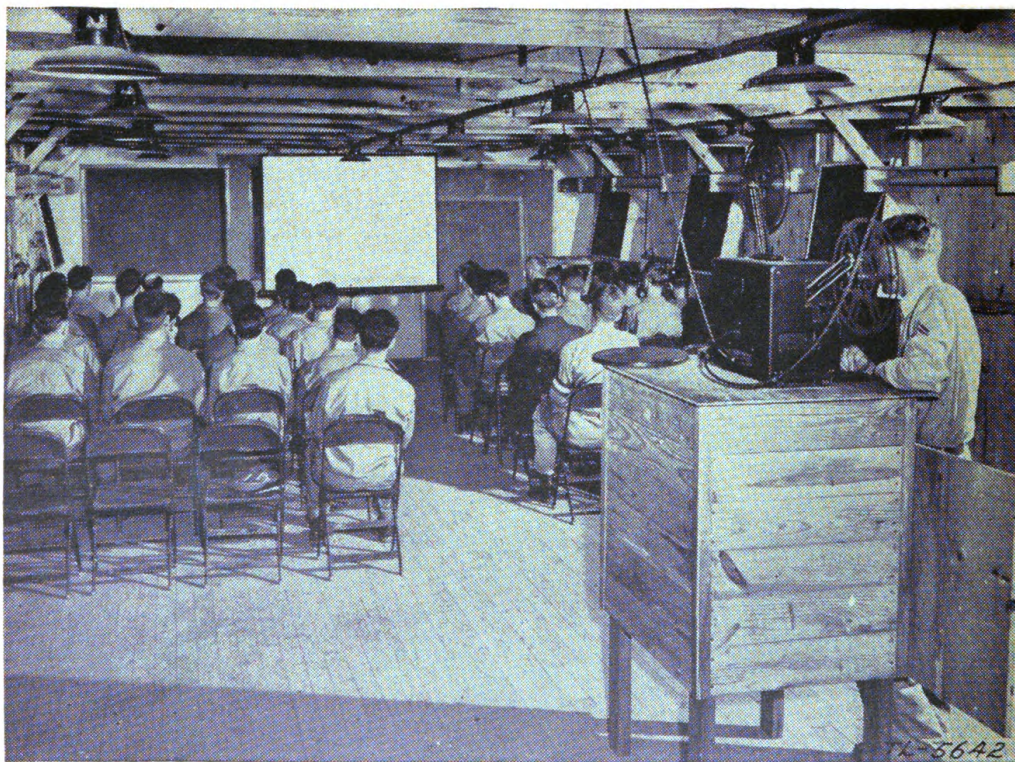

FIGURE 31.—Room prepared for projection.
11. Screening.—Rooms prepared for training film projection are shown in figures 31, 32, 33, and 34. Buildings in use as barracks make poor film theaters. Although seats are located in front, stoves interfere with projection and the acoustics are bad.